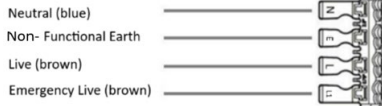

Fig. 3
- Connect to the mains supply ensuring the correct polarity is observed: L – Live (brown), L1 – Emergency Live, E – Earth (brown), N – Neutral (blue). Link between Emergency Live and Live for maintained and no link for non-maintained (see Fig. 3). Two cables can be inserted into the push-fit terminal block to achieve loop-in/loop out wiring.
- Connect the luminaire to the mains supply (see Fig. 3)